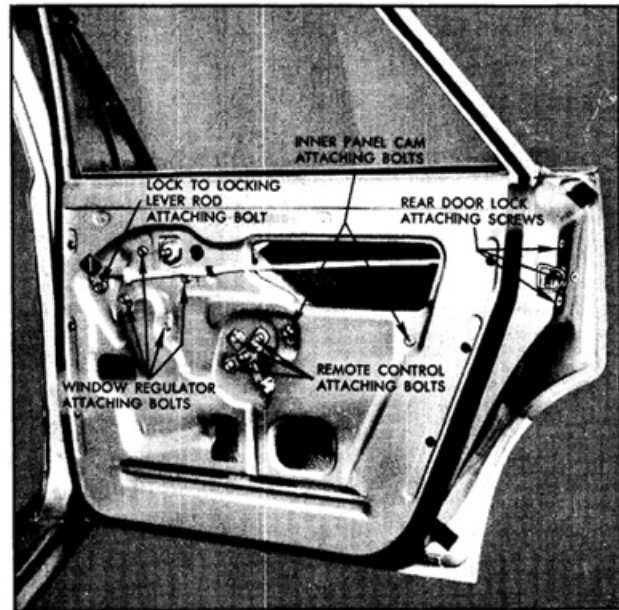

Fig. 16-353 Rear Door Hardware
3. Remove screws securing lock to door lock pillar facing and remove lock through inner panel access hole. (Fig. 16-353)
4. To install, reverse removal procedure. Check lock for proper operation before installing water deflector. (Fig. 16-353)
3. Remove inside locking rod assembly attaching bolt and washer and detach connecting rod from clip on inner panel. (Fig. 16-353)
- Remove two attaching bolts and slide cam out of engagement with regulator balance arm roller and remove cam from door. (Fig. 16-353)
- Remove window regulator attaching bolts and move regulator assembly rearward to disengage lift and balance arm rollers from window lower sash channel cam and remove regulator through large access hole. (Fig. 16-353)
A rotated door window can be corrected by adjusting the inner panel cam. (Fig. 16-353)